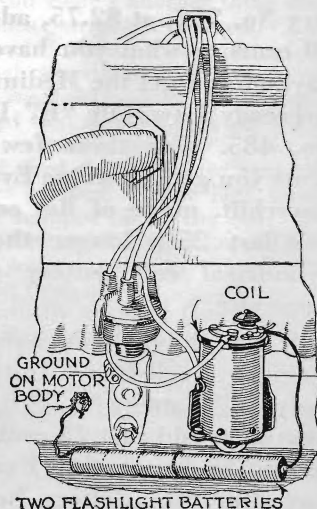

Fig. 5. How to wire two flashlight batteries to start the motor when storage battery is discharged.
**I**F THE battery is so low that the car won't start, even with the hand crank, a couple of flashlight batteries will do the trick. Fig. 5 shows how to connect them. Remove the ignition coil wire leading to the ignition switch, and replace it with a wire from one end of the two flashlight batteries connected in series (you must have at least four cells). Then connect the other end of the two batteries to the metal crank case.